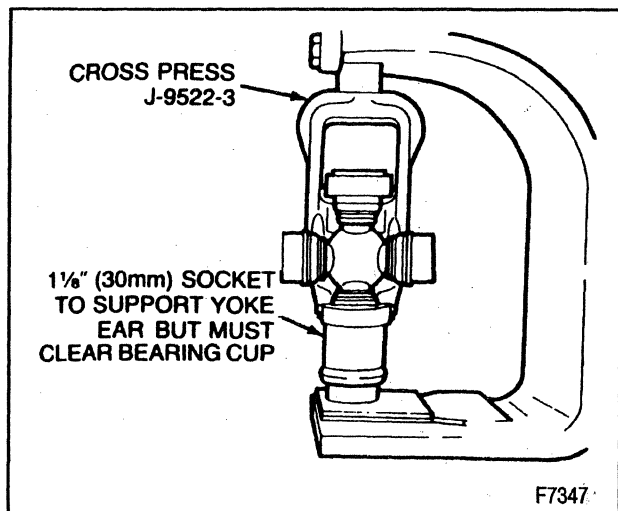

Figure 14—Pressing Out Universal Joint
- Place the universal joint so that the lower ear of the yoke is supported on a 1 1/8-inch socket (figure 14).
- Place the universal joint so the lower ear of the yoke is supported on a 1 1/8-inch socket (figure 14).